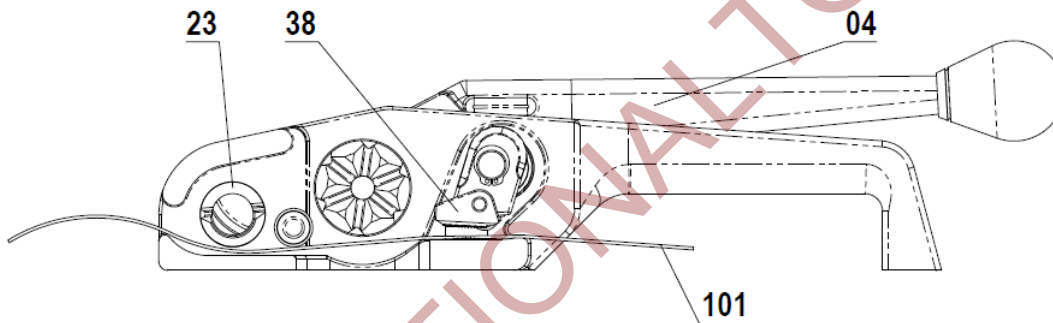

Fig. 2
1. Raise **Gripper Foot 38** by pressing down on **Tension Handle 04**. Load bottom strap **101** under **Cutter Housing 23**, under **Gripper Foot 38** and leave at least 2" of the strap extended out from the front of the tool for seal placement as shown on Fig. 2.